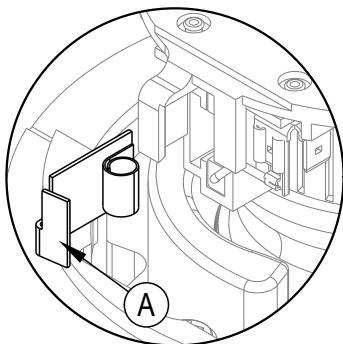

Figure 8
Inspect all four brushes every 6 months or 250 hours. Access to the brushes is gained through the front and back motor vent plugs and under both motor covers (Figure 7). Press tab (A) on spring clip assembly in, rotate, then remove (Figure 8). Use needle-nose pliers to disconnect the shunt wire. If any brush has worn to 3/8" in length or shorter, replace the entire set.